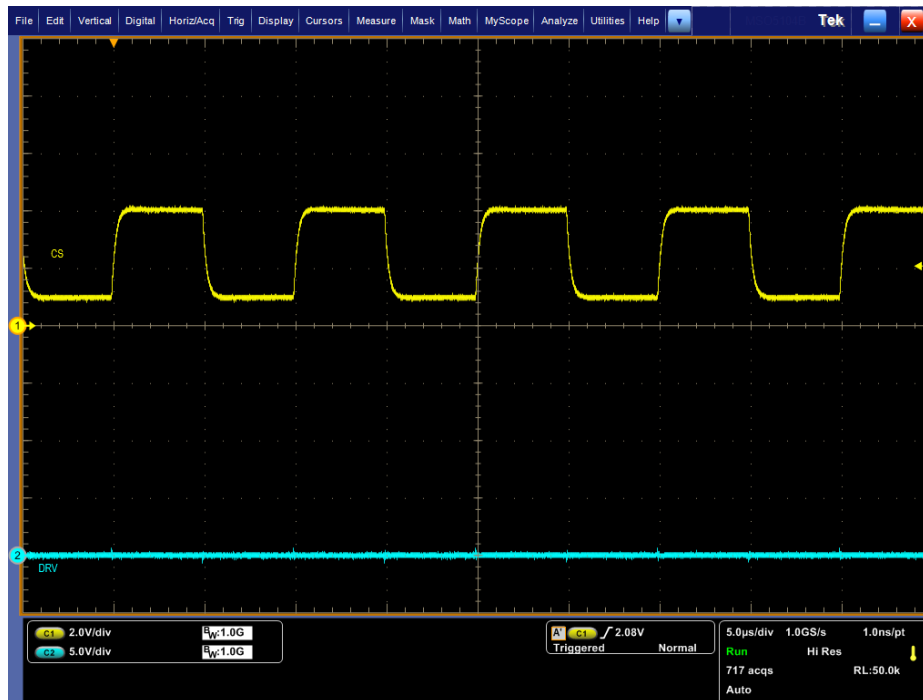

Figure 3:  $V_{CC} = 12\text{ V}$ ,  $f = 100\text{ kHz}$ ,  $DC = 50\%$ ,  $V_{LOW} = +1\text{ V}$ ,  $V_{HIGH} = 4\text{ V}$
6. Check that  $I_{CC} \sim 60\text{ }\mu\text{A}$ , waveforms look like in figure 3 (no DRV pulses)